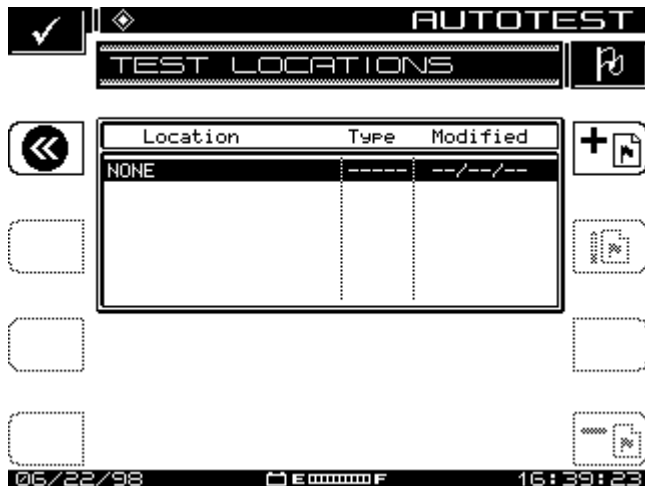

Figure 7-2A: Autotest, Test Locations
Use the up/down arrow keys to select **Test Location**, then press any soft key, and Figure 7-2A, **Test Locations** list, appears.
Entering a NEW location: To establish a new test location, referring to Figure 7-2A on the screen (next page):
2. When you are satisfied with the adjustments, press the **OK** soft key, which re-activates figure 7-2A.